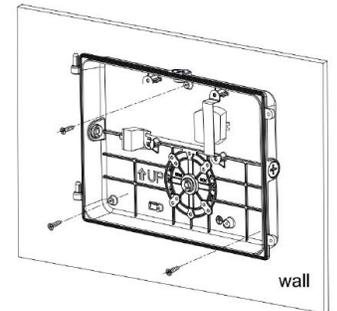

Fig7
**Step 4 Method B:** Fix the rear housing by four screws (provided by others) to the existing junction box on the wall (Fig7).